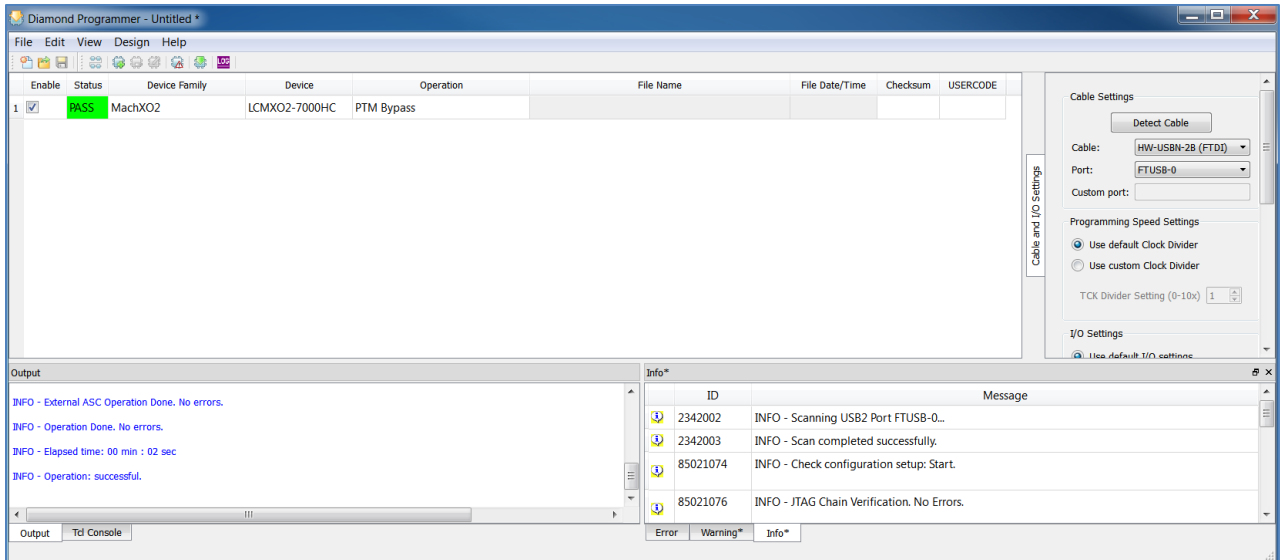

Figure 6.22. ASC Socket – Programming Completed
- When the programming of the device is completed, the **Status** option changes to **PASS** and **Operation: successful** message appears in the **Output** console as shown in Figure 6.22. During the programming activity the MXO2_SDA and MXO2_SCL LED light blink on the board showing communication between the MachXO2 and ASC devices. *Done* is not a dedicated output in the MachXO2 family. *Done* LED indication is not supported.